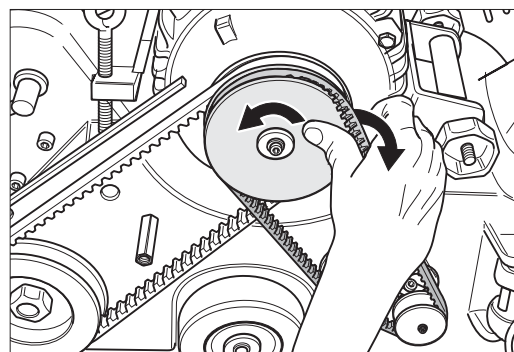

Fig. 20 Remove the suction V-belt.
- 4 Remove the suction belt by allowing it to run off the lower pulley by turning the motor pulley (Fig. 20). **Take care of your fingers → danger of crushing!**